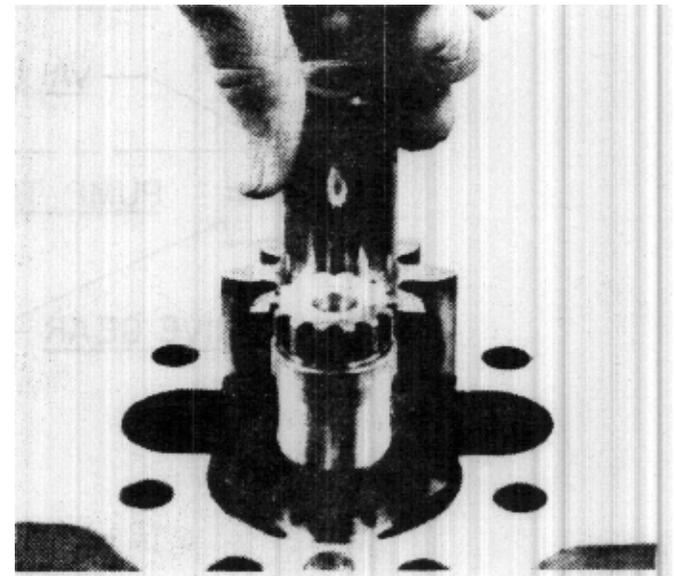

FIGURE 96
34. Coat the idler gear (8) journals with clean hydraulic oil and install it in the opposite bore. (Fig. 96)